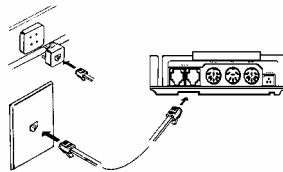

Figure 5
3. Connect one end of the telephone line cord to one of the modular jacks at the rear of the terminal. Connect the other end of the line cord to a modular telephone wall jack, just as you would connect a telephone (see Figure 5). Insert the modular plug directly into the wall jack, or use a 4-prong adapter (not included) for older 4-prong jacks.